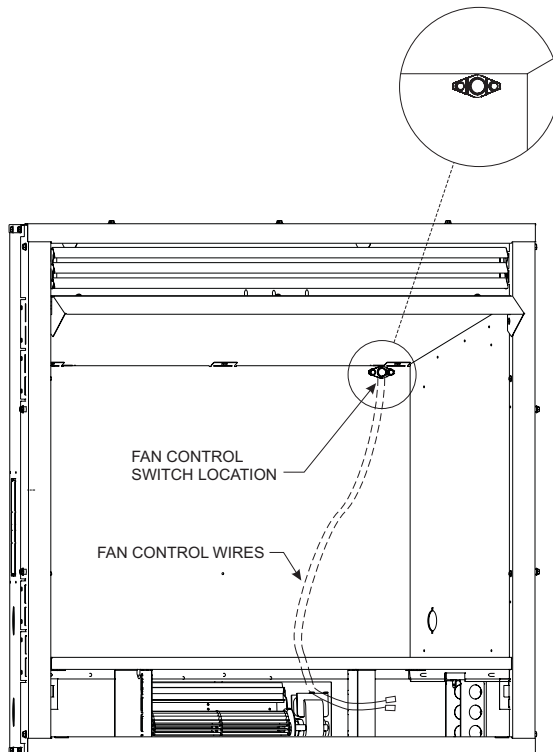

Figure 17
- Next, find the fan control switch and wire assembly. Feed the wires through the hole at the top of the firebox, and secure the fan control switch with two #6 screws provided. See Figure 17.
- The fan control wires will slide down between the firebox and outer wrap near the blower assembly. See Figure 17.